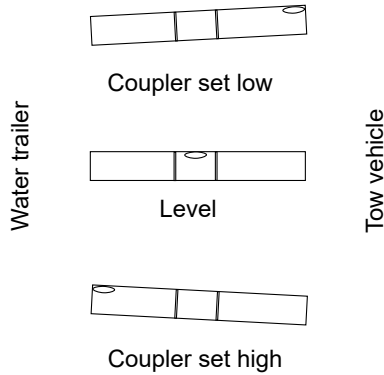

Fig. 16
6. If the spirit level bubble was toward the vehicle (Fig. 16), the coupler is set too low. If the bubble was toward the trailer, the coupler is set too high.